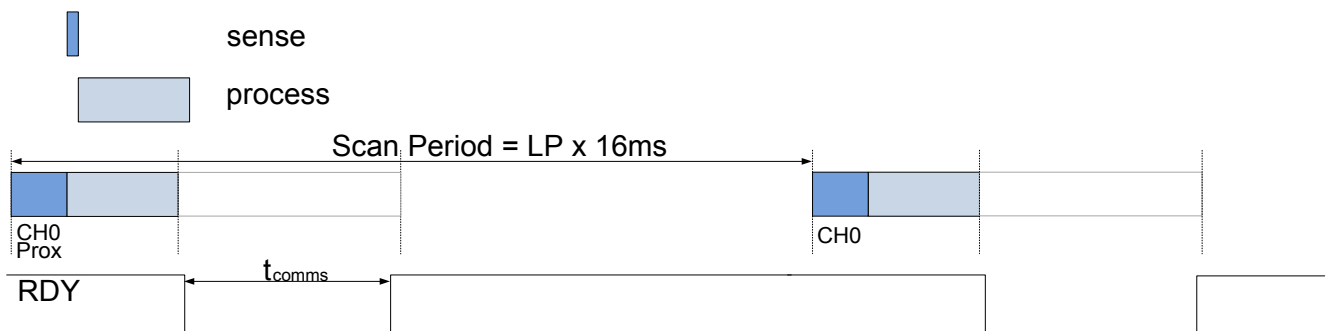

Figure 5.2 **IQS360 Charge Cycle Timing in Low Power Mode.**
NOTE: While in any power mode the device will zoom to Boost Power (BP) mode whenever the condition $(CS - LTA)^1 > \text{PROX_TH}$ or TOUCH_TH holds, indicating a possible proximity or touch event. This improves the response time. The device will remain in BP for t_{ZOOM} and then return to the selected power mode. The Zoom function allows reliable detection of events with current samples being produced at the BP rate. The LP charge cycle timing is illustrated in **Figure 5.2**. The bit3 in Register 0x10, byte 0, will indicate if low power is active, or the device is zoomed in.
Adjusting the charge transfer speed will change the charge cycle duration (t_{CHARGE}) as shown in **Figure 5.2**.